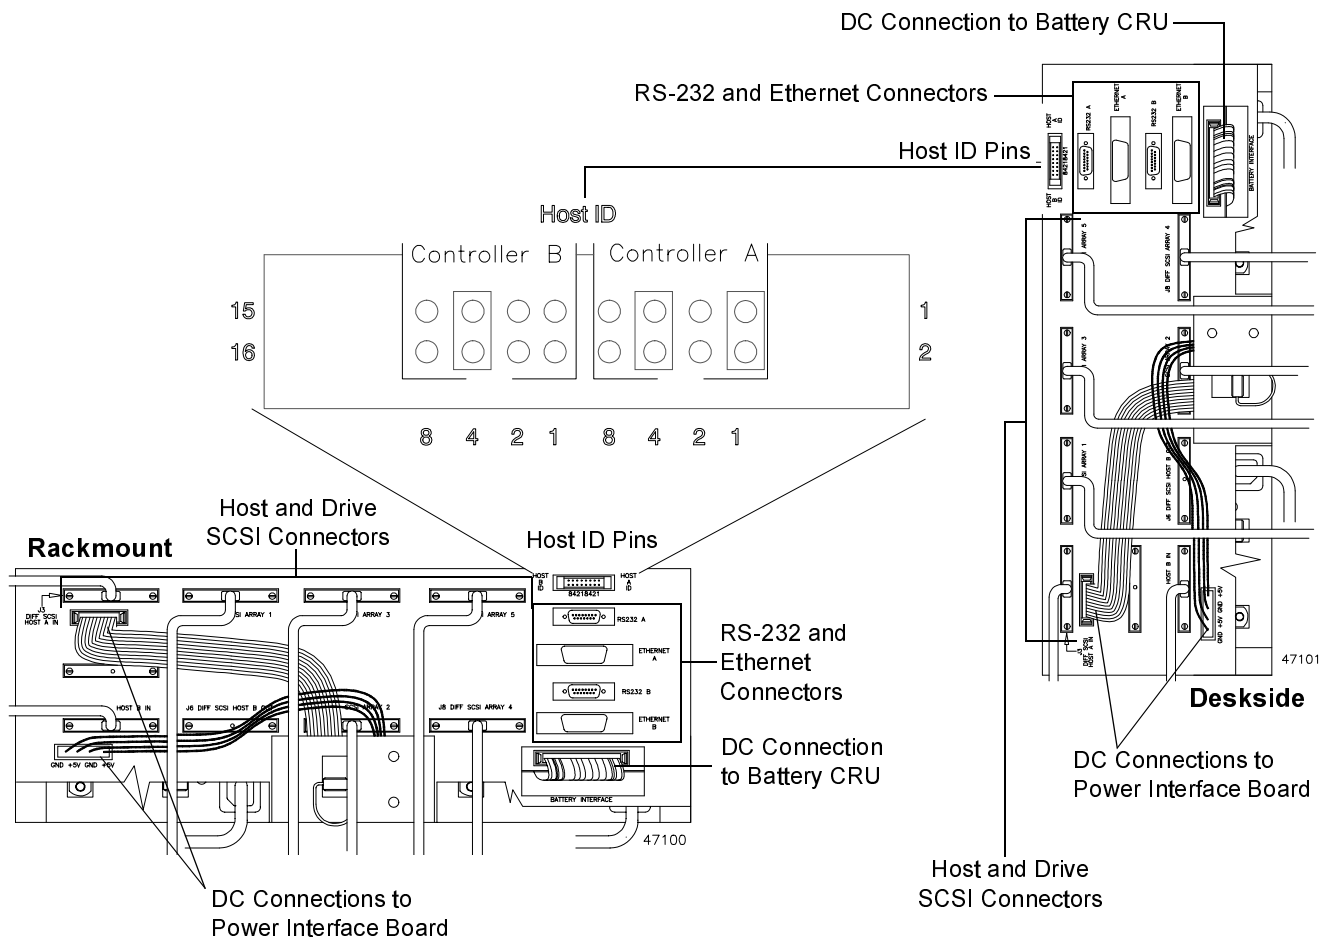

Figure 34 Interface Connectors and Host ID Pins
- Hardware host ID settings through the host ID pins on the back of the command module (Figure 34)
There are thirteen interface connectors, three power connectors, and a set of sixteen host ID pins on the back of the command module (Figure 34 on page 59). These connectors and pins extend through the back wall, or *rear shield*, of the command module chassis. They include the following:
If the command module is installed on a SCSI bus, the controllers must have unique *SCSI host ID* numbers, which are set through ID pins on the back of the unit (Figure 34 on page 59). The factory default settings for the controllers are SCSI ID 5 (Controller A) and SCSI ID 4 (Controller B).